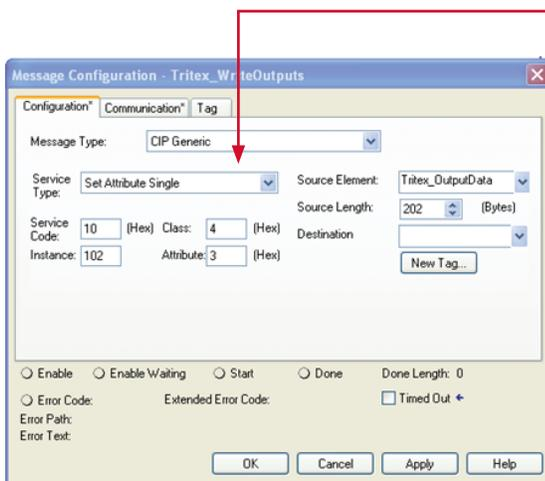

Figure 33 – Set Message Configuration Properties
- Configure Message Configuration parameters. See figure 33 and 34.